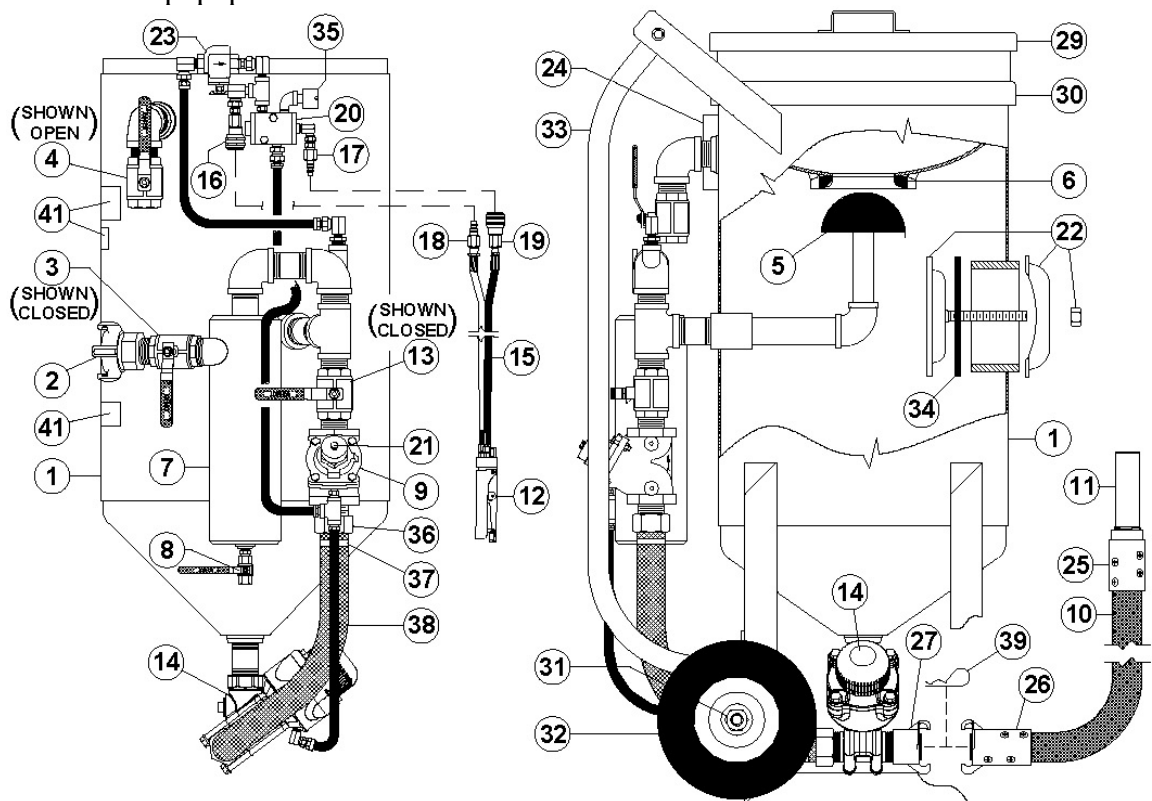

Figure 7.1 – Thompson Valve Abrasive Blaster with pneumatic blast controls
- 7.1.2. Remove the vessel lid (#29) and screen (#30) to check that the popup (#5) has dropped open. The open popup indicates that the blast vessel is depressurized. See Figure 7.1.
- 7.2.6. Close the blowdown ball valve (#4). The ball valve is closed when the handle is perpendicular to the body (See Figure 7.1 or 7.2).